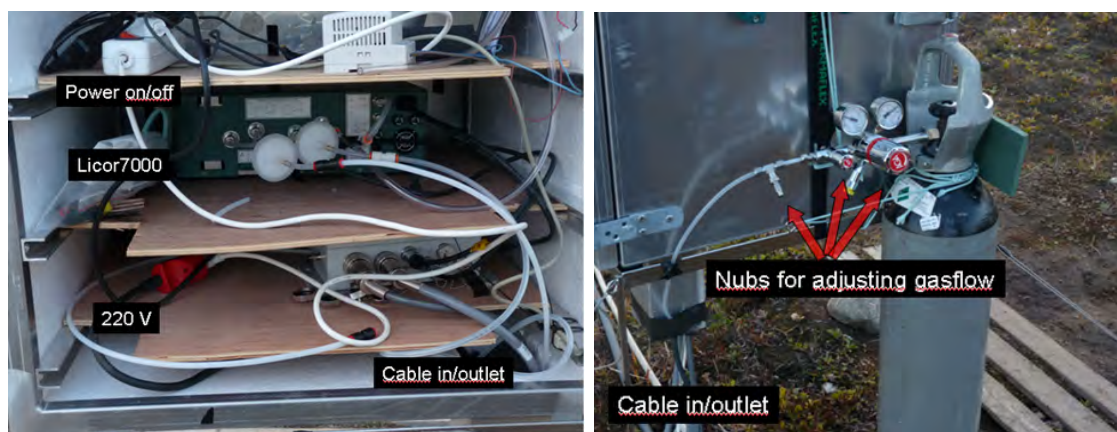

Figure 72: A look into the enclosure from the Back (left) Gas supply for the Licor7000 (right).
3. Switch on the external pump on the (On/Off) switch (Fig. 72).
1. Switch off the external pump on the (On/Off) switch (Fig. 72).
4. Check the flow rate of the incoming nitrogen gas (see Fig. 72). On the backside of the Licor7000 an outlet tube from cell A leads out to the open air. There should always be a continuous flow from the tube of about 1-2 bobbles per second. Bring a small bottle with water (can be left in the enclosure, as long as the air temperature is above freezing) and insert the outlet tube from cell A into the water. Allow bobbles to escape through the water by orientating the outlet horizontally or slightly upwards inside the bottle. Notice the time on your watch, count 20 bobbles and look at your watch again. If 10-20 seconds have passed the air flow is fine, if not adjust the nubs on the nitrogen gas bottle just next to the enclosure. Allow the flow to stabilize for a couple of seconds, before performing the bobble test again. Repeat this exercise until the gas flow is correct. During the main field season
3. Connect a new filter to the tubes. Make sure the tube covers the filter branch completely and that the filter is installed so inlet/outlet is in the right direction according to the direction of the air flow (Fig. 72).